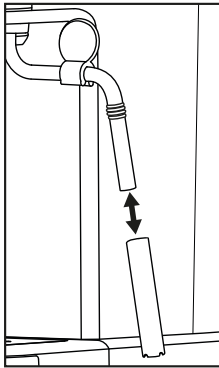

Fig. 3
- 5) Pull the sleeve off the milk frother **8** (see Figure 3), and clean it carefully in warm water with some detergent. Use a small brush, if necessary, to clean the inside of the sleeve as well. Rinse the sleeve afterwards with plenty of clean water.
- 7) Push the casing back onto the nozzle (Figure 3).